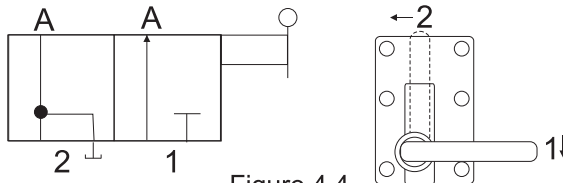

Figure 4.4
1.Shift valve handle to position 1 as shown Figure 4.4.